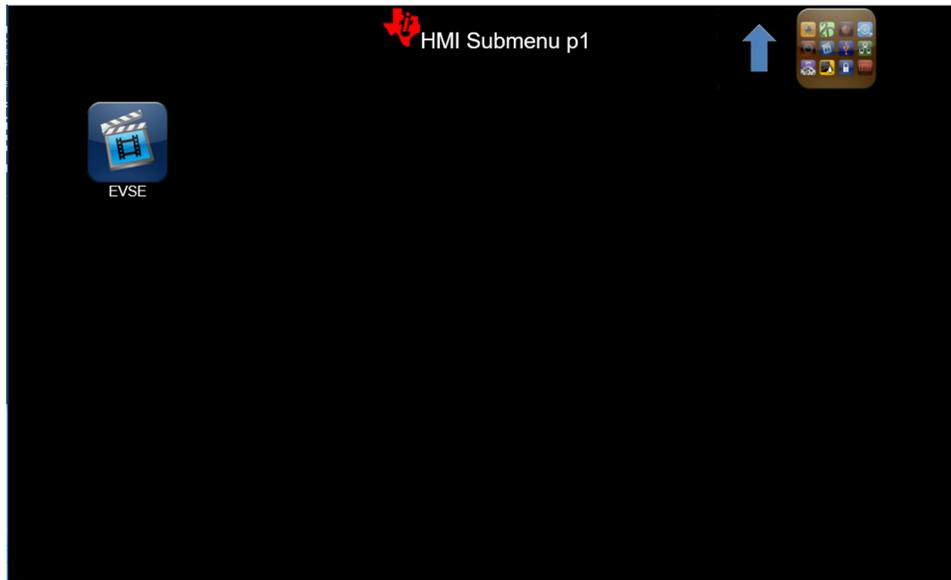

Figure 7. HMI Submenu
2. Figure 7 shows the HMI Submenu, which is the next screen that appears. Click on the *EVSE* icon.